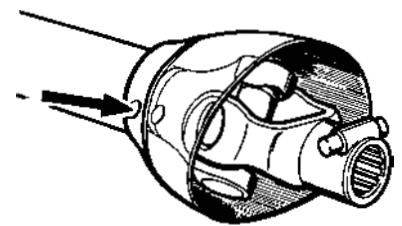

Fig. 8
- 10 Using a grease gun and a multi-purpose grease, ensure the tiller tine shaft and the driveline are lubricated Fig. 8